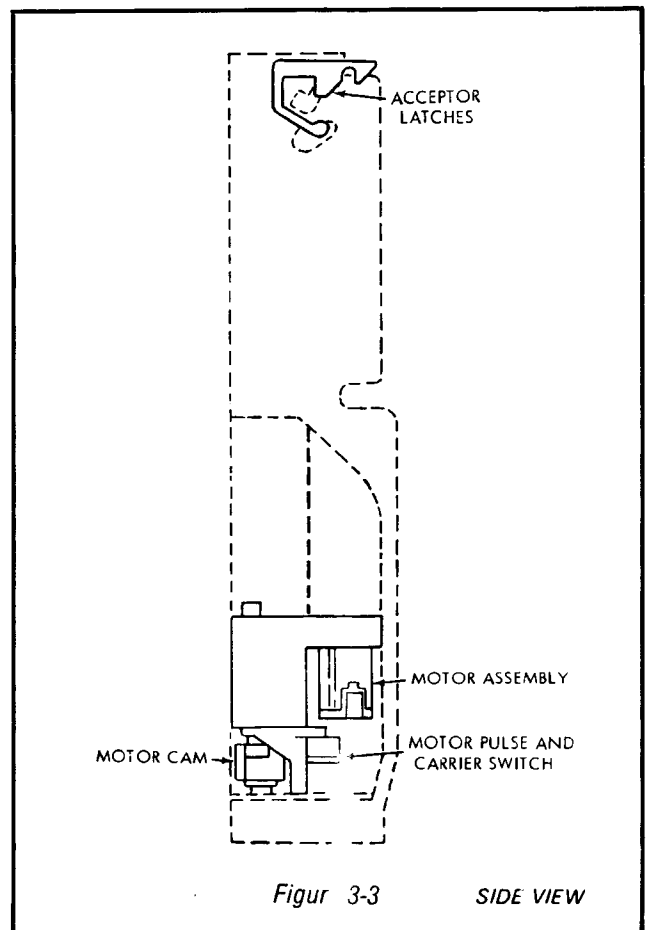

Figure 3-3 SIDE VIEW
K. MOTOR CARRIER AND PULSE SWITCH (Figure 3-3)